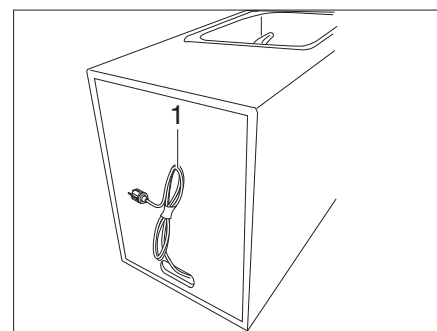

Fig. 16 Mains cable for Campbox battery
- If necessary, remove the power cable (Fig. 16,1) on the back of the flushing module.